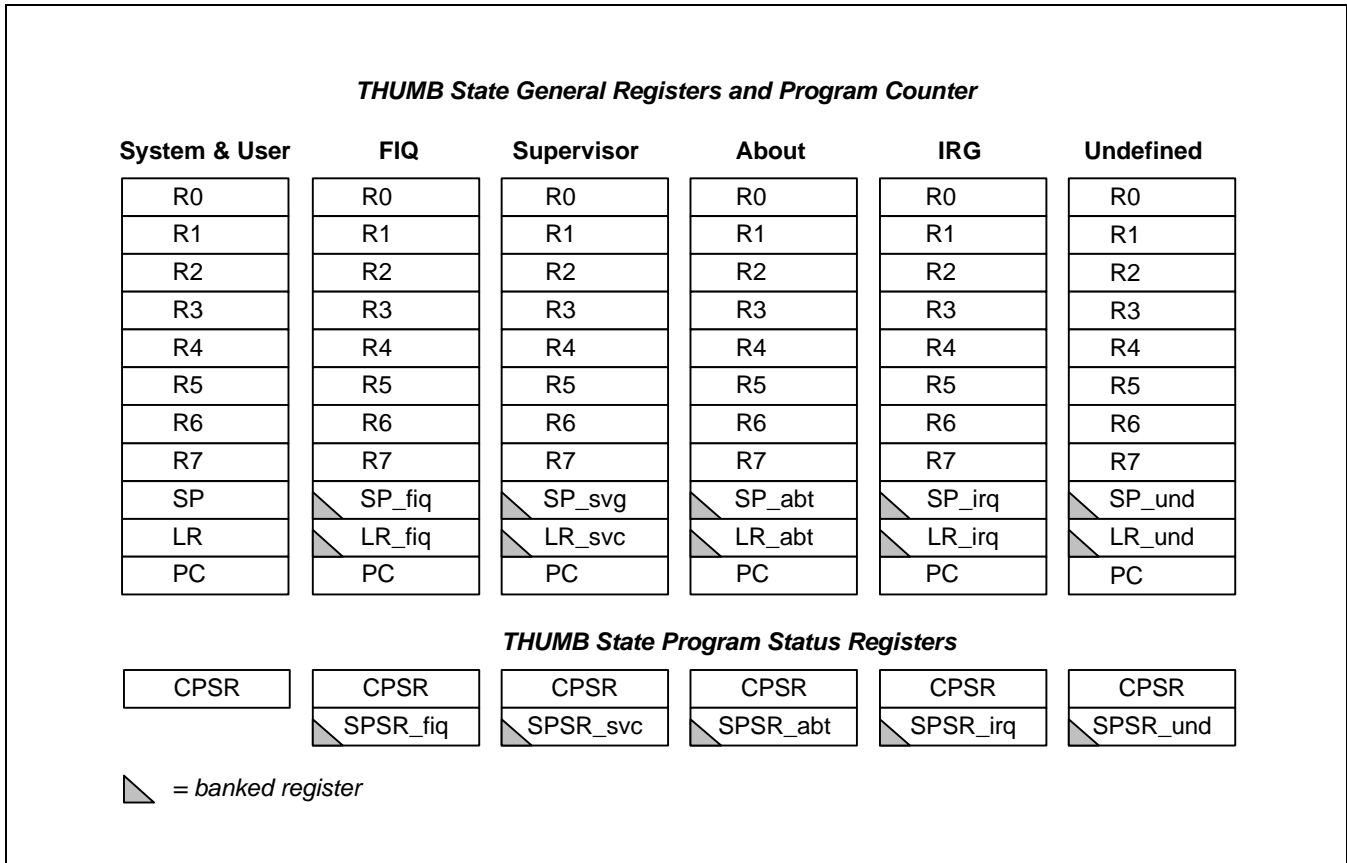

Figure 2-4. Register Organization in THUMB State
The THUMB state register set is a subset of the ARM state set. The programmer has direct access to eight general registers, R0-R7, as well as the Program Counter (PC), a stack pointer register (SP), a link register (LR), and the CPSR. There are banked stack pointers, link registers and Saved Process Status Registers (SPSRs) for each privileged mode. This is shown in Figure 2-4.